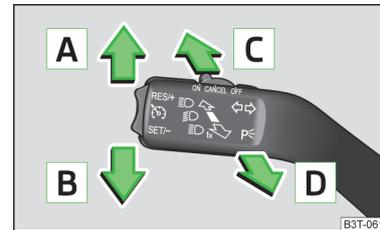

Fig. 50
- Pull the turn signal- and main beam lever (» Fig. 50 on page 69) towards the steering wheel, push down and hold in this position.
Lever positions » Fig. 50